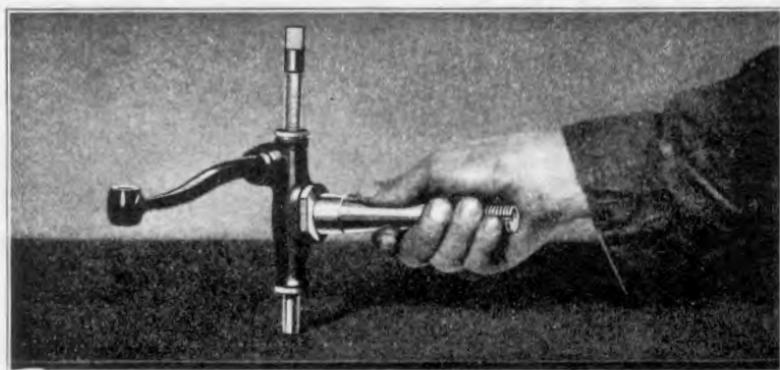

Fig. 372
- 687** If spindles and arms are O. K., examine the spindle and spindle arm bushings for wear. If the bushings are worn, new bushings should be installed. The spindle arm bushings are removed by driving them out of the arms with a bushing driver; the new bushings can then be driven in. The spindle bushings are removed by screwing a bushing extractor into the bushing and tapping the end of the extractor on a wooden block or bench (See Fig. 372). The bushings